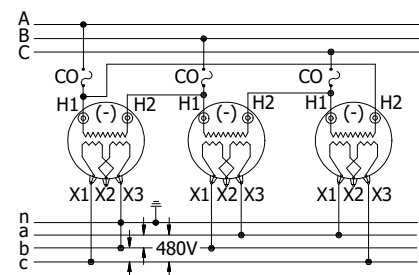

FIGURE 7 (IV)(V)(VI)(VII)(VIII)
- (I) OMIT LIGHTNING ARRESTERS AND TANK GAP GROUNDS ON TYPE WE TRANSFORMER INSTALLATIONS.
- (II) NOT TO BE USED EXCEPT WHERE APPROVED BY DESIGN STANDARDS GROUP FOR EMERGENCY SUBSTITUTION FOR TYPE W'S AND MUST BE CHANGED TO TYPE 'W' WHEN THEY ARE AVAILABLE.
- (IV) NEW CUSTOMER CONNECTED TO NEW STATION: CONNECT AS SHOWN IN FIGURES 7 & 8. THE SERVICE GROUND CONDUCTOR (4TH WIRE) SHALL BE MARKED GREEN OR GREEN WITH ONE OR MORE YELLOW STRIPES IN COLOR AND THE GROUNDED PHASE CONDUCTOR SHALL BE MARKED RED IN COLOR FOR THE CUSTOMER. THE GROUNDED PHASE CONDUCTOR MUST BE CONNECTED TO THE "B" PHASE IN THE SERVICE & METERING EQUIPMENT.
- (V) NEW CUSTOMER CONNECTED TO EXISTING UNGROUNDED STATION: RUN FOUR WIRE SERVICE AND IDENTIFY THE FOURTH WIRE FOR THE CUSTOMER AND GROUND IT AT THE STATION POLE, BUT DO NOT INTERCONNECT FOURTH WIRE TO PHASE WIRE AT THE POLE. TIE ONE CORNER OF THE DELTA TO THE GROUND WHEN ALL SERVICES FROM THAT STATION ARE FOUR WIRE.
- (VI) EXISTING CUSTOMER CONNECTED TO EXISTING UNGROUNDED STATION: 3-WIRE SERVICE TO REMAIN UNCHANGED AND UN-GROUNDED.
- (IX) (+) ADDITIVE POLARITY TRANSFORMERS.
- (XI) HIGH LEG MARKING: 4-WIRE DELTA-CONNECTED SERVICE WHERE THE MIDPOINT OF ONE PHASE IS GROUNDED, THE SERVICE-ENTRANCE CONDUCTOR HAVING THE HIGHER PHASE VOLTAGE-TO-GROUND SHALL BE MARKED ORANGE IN COLOR. THE HIGH LEG CONDUCTOR MUST BE CONNECTED TO THE "C" PHASE WITHIN THE SERVICE AND METERING EQUIPMENT.